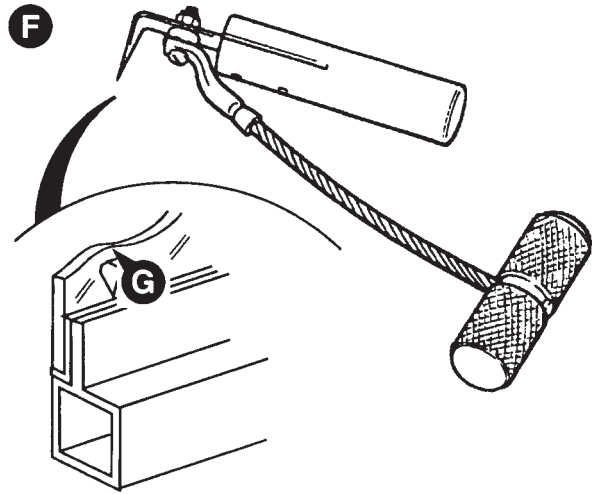

Fig. 4
c Cut-out Knife F. The cut-out knife can be used as a left handed or right handed tool, (see fig. 4).
- (ii) Make sure that the blade of the knife is against the glass as shown at **G** (see fig. 4).